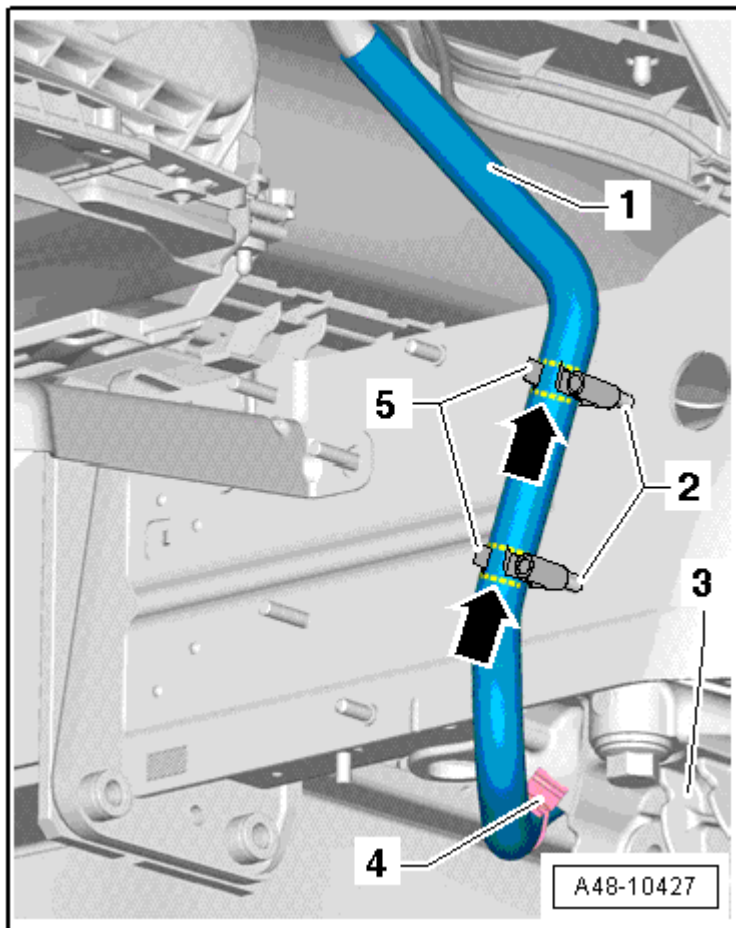

Fig. 36: Return Line Bracket To Subframe
10. Return line bracket to the longitudinal member, refer to **Fig. 36**